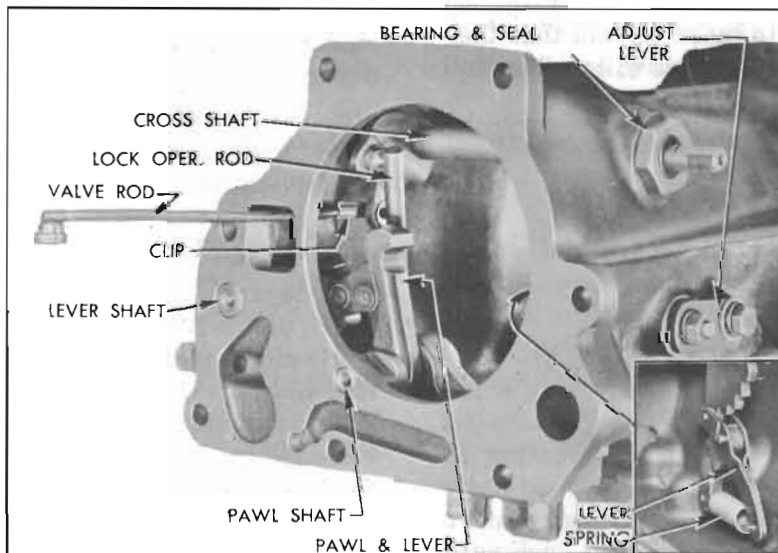

Figure 5-87—Parts in Rear Bearing Retainer
1. Remove spring from detent roller lever and support inside the rear bearing retainer, remove adjusting lever on outside of retainer, then remove lever and support assembly. See Figure 5-87.
2. Disconnect the parking lock operating rod from the cross shaft by unscrewing the rod end from cross shaft lever. The rod end is provided with a lockwasher. See Figure 5-87.
4. Screw a  $\frac{1}{4}$ "-20 bolt into the parking lock operating lever shaft and the lock pawl shaft and pull these parts from bearing retainer, then remove the lock pawl and lever assembly. See Figure 5-87.
2. Install parking lock pawl and lever assembly in rear bearing retainer, then install the lock pawl shaft and operating lever shaft with tapped ends outward. See Figure 5-87.